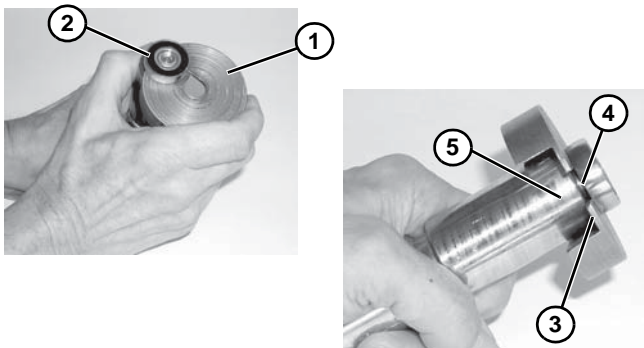

Figure 60
1. Place bearing removal tool (**Figure 60, item 1**) (part # 456063) below bearing (**Figure 60, item 2**) with lip (**Figure 60, item 3**) located in gap (**Figure 60, item 4**) between bearing and spindle hub (**Figure 60, item 5**) as shown.